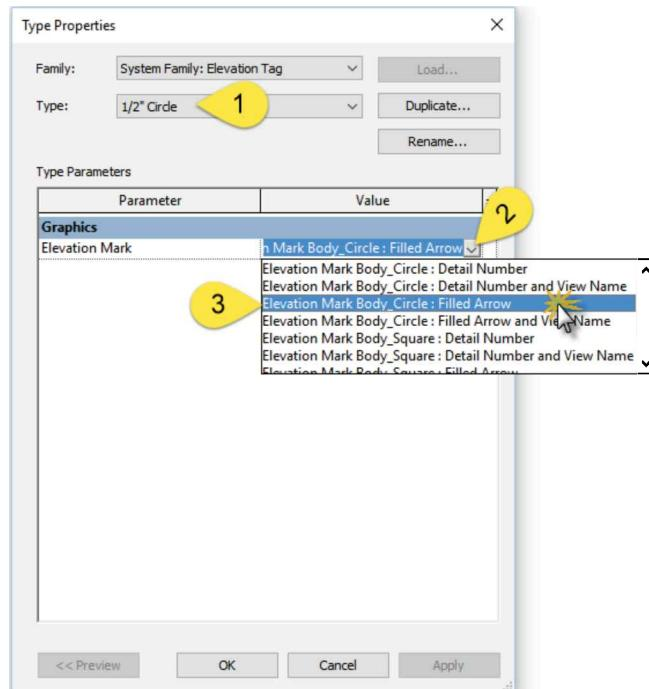

FIGURE 10-3.6 Adjusting the interior elevation tag
17. Set the *Type* to **½" Circle** (Figure 10-3.6).
18. Select **Elevation Mark Body_Circle: Filled Arrow** from the *Elevation Mark* drop-down list (Figure 10-3.6).